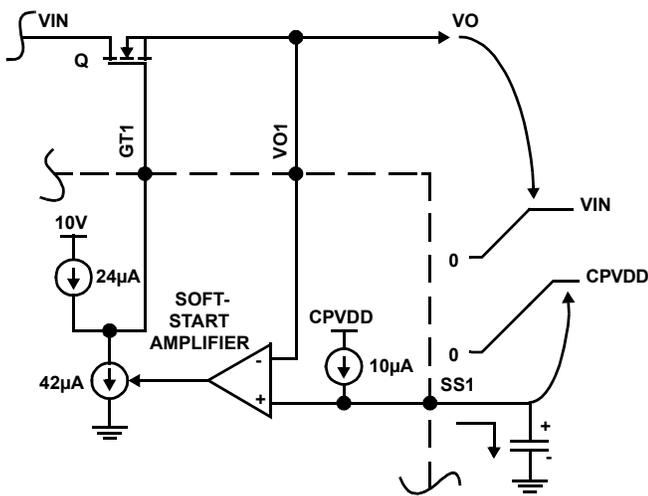

FIGURE 12. SOFT-START OPERATION
The output voltages are monitored through the Vo pins and slew up at a rate determined by the capacitors on the Soft-start (SS) pin, as illustrated in Figure 12. 24µA of gate charge current is available. The soft-start amplifier controls the output voltage by robbing some of the gate charge current thus slowing down the MOSFET enhancement. When the load voltage reaches its set level, as sensed by its respective UV_{pin} through an external resistor divider, the Power Good (PG) output goes active.
I_{INRUSH} is the sum of the dc steady-state load current and the load capacitance charging current. If the dc steady-state load remains disabled until after the soft-start period expires (\overline{PGx} could be used as a load enable signal, for example), then only the capacitor charging current should be used as I_{INRUSH} . The C_{SS} value should always be more than (1/2.4) of that of C_{ISS} of the MOSFET to ensure proper soft-start operation. This is because the C_{ISS} is charged from 24 μ A current source whereas the C_{SS} gets charged from a 10 μ A current source (please refer to Figure 12). In order to make sure both V_{SS} and V_O track during the soft-start, this condition is necessary.